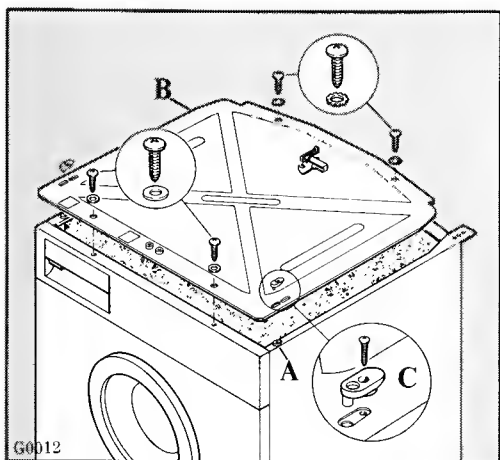

Fig. 10
2. Remove the two plastic blocks A Fig. 10.
3. Fit the protection panel B as shown in Fig. 10 and
4. fix it by means of the plastic blocks C Fig. 10 supplied.